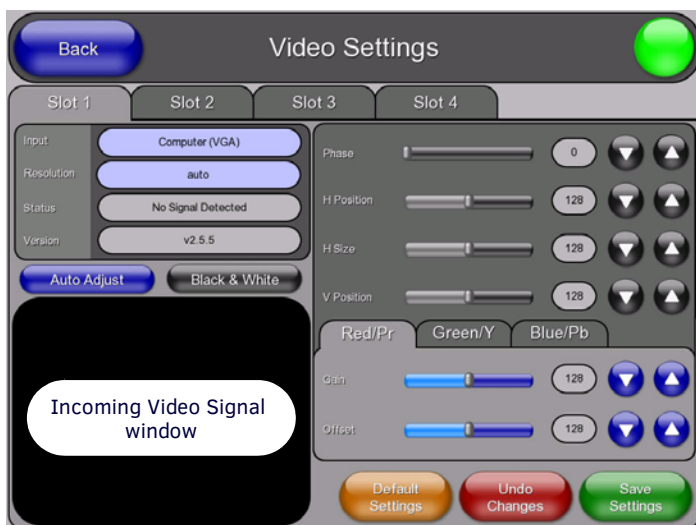

FIG. 61 Setup - Video Settings Page (Input Type = VGA or Component)
- If you have selected **VGA** or **Component** as the Input Type, the Video Settings Page contains the options shown in FIG. 61.